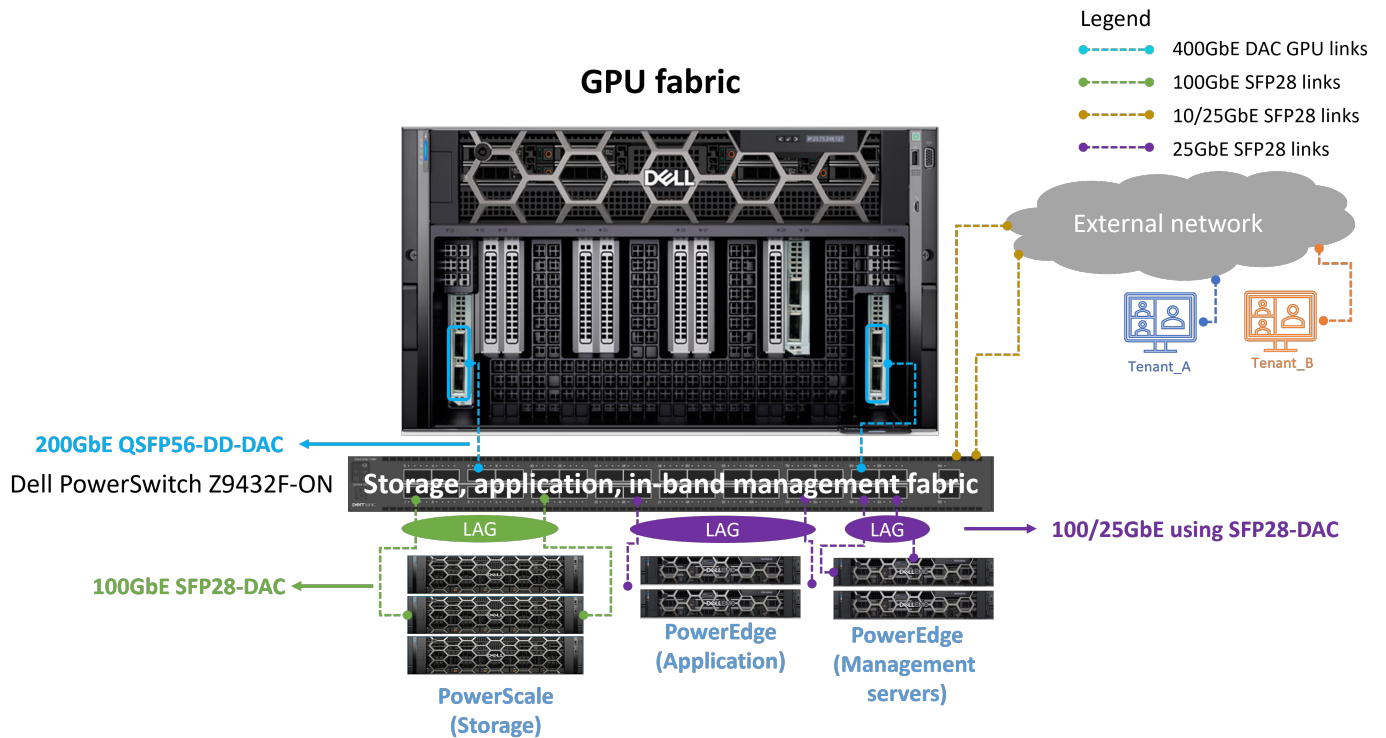
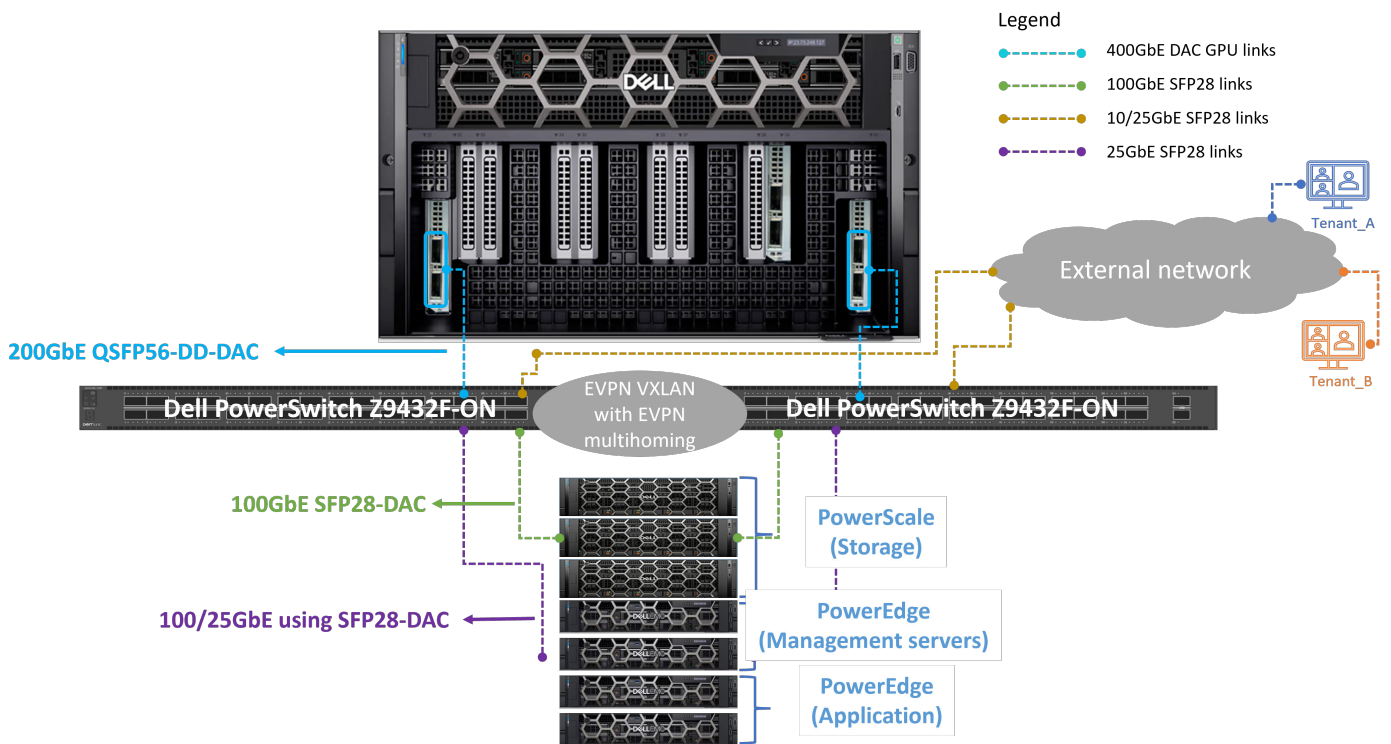

Figure 22. Front-end GPU cluster non-redundant fabric option 1
Figure 23. Front-end GPU cluster redundant fabric option 2
- Non-redundant: A single Z9432F-ON is used as the front-end fabric. See Figure 22.
- Redundant: A pair of Z9432Fs is used to provide link and fabric redundancy for the front-end fabric. See Figure 23.
On the Dell Z9432F-ON, the switchports connected to the Thor 2 NICs are configured as 2x200GbE. (See Figure 22 or Figure 23.)